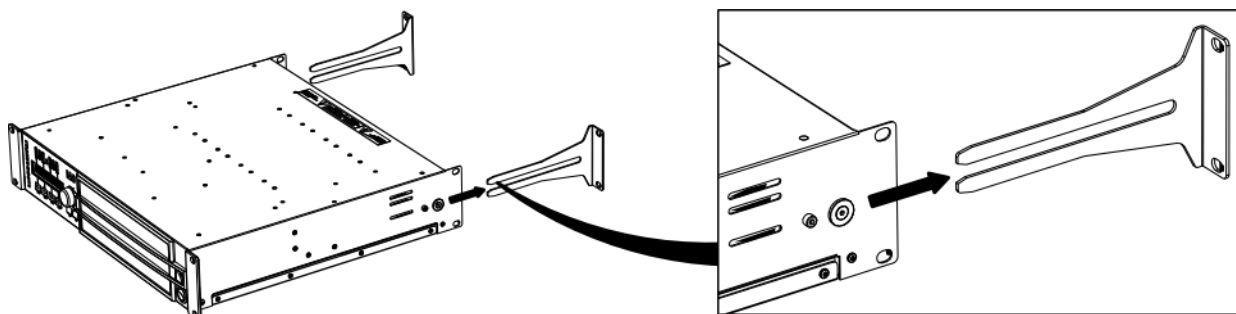

Figure 1: Removing the REAR BRACKETS
1. Remove the two old REAR BRACKETS from the amplified controller pulling on them, see Figure 1.